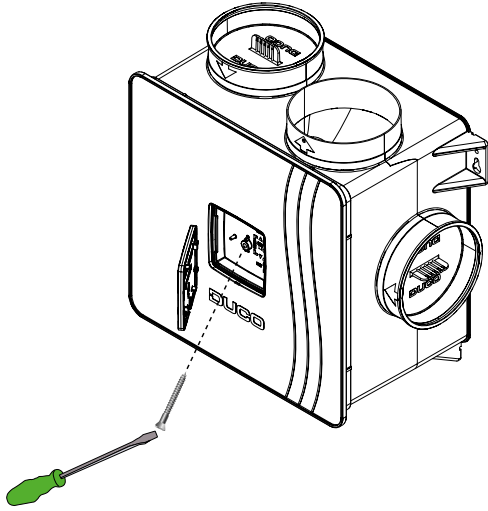

Figure 10: Remove the cover plate and unscrew the lid.
1. Disconnect the DucoBox Reno UK / IE from the mains and remove the lid of the DucoBox Reno UK / IE. To do this, first remove the screw located behind the cover plate. (Figure 10: Remove the cover plate and unscrew the lid).